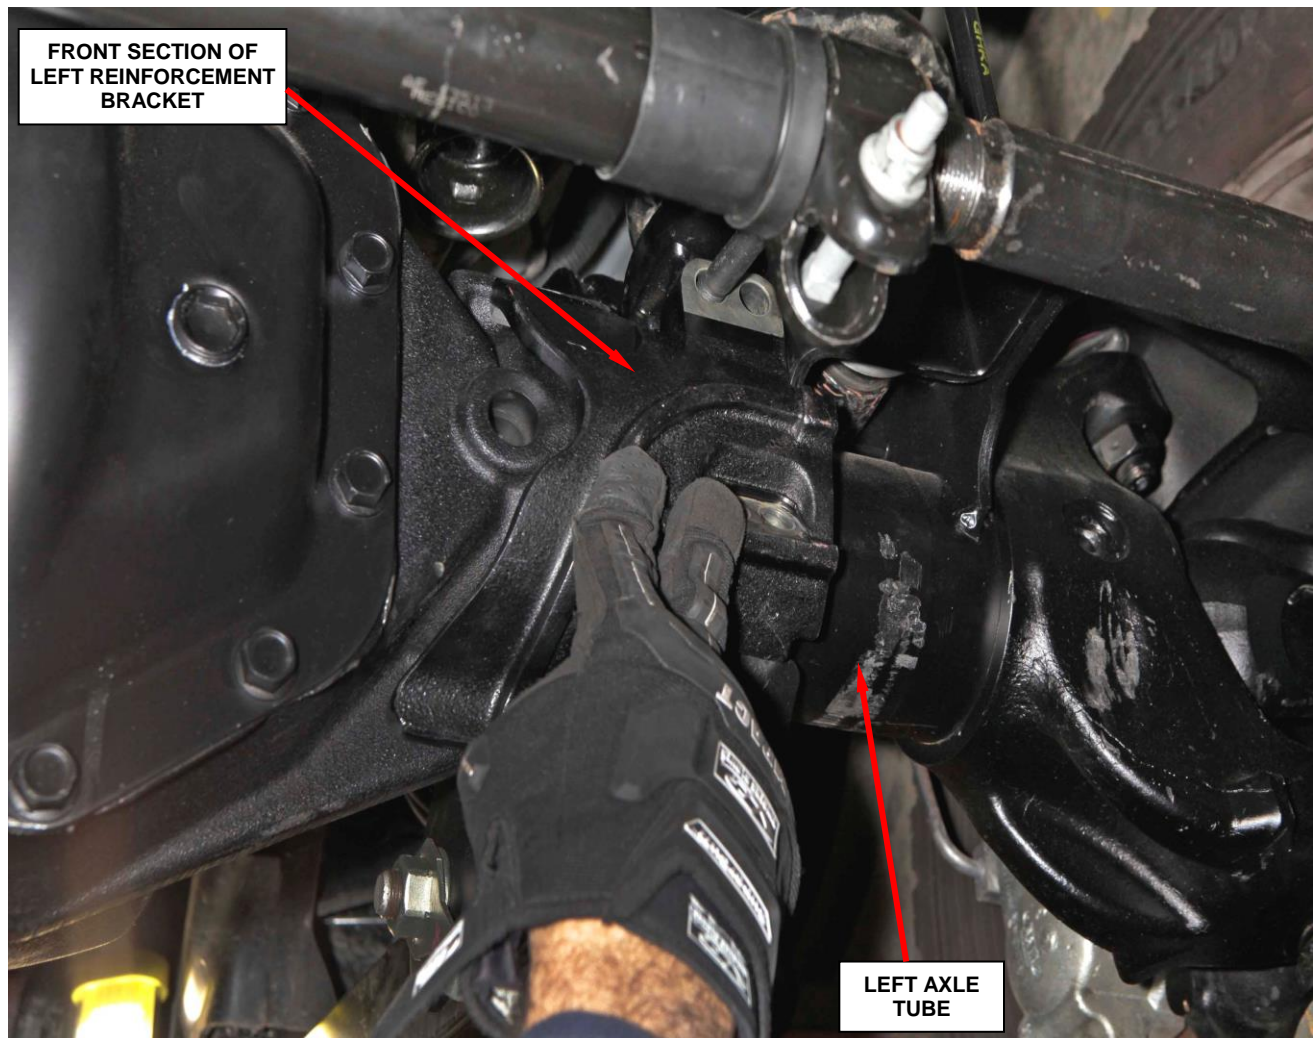

Figure 20 – Install Left Side Top and Front Reinforcement Brackets
- b. Place the front section of the left reinforcement bracket into position, then install the top rear section of the left reinforcement bracket and install the two retaining bolts, hand tighten only (Figure 20).